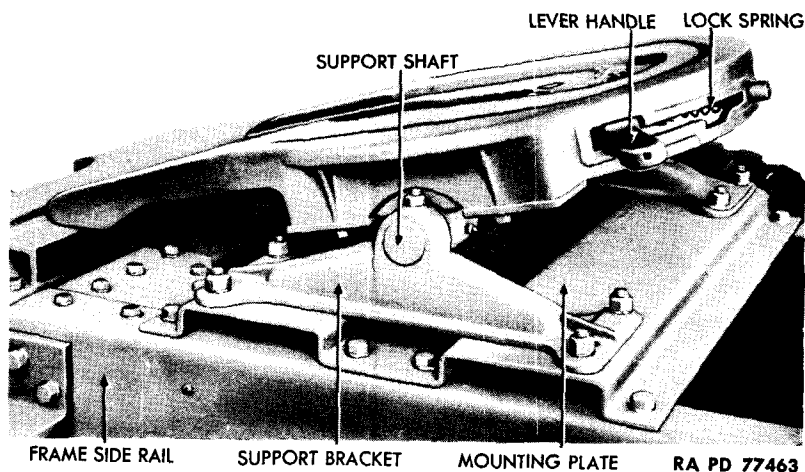

Figure 106 – Fifth Wheel Installed
a. **Description** (fig. 106). The fifth wheel is attached to a mounting plate bolted to the frame side rails at the rear of the truck, and is used to couple tractor and trailer together. It is a swivel-mounted, flat, round steel plate. Rear half of plate forms a V-shaped opening which guides the kingpin neck of the trailer coupling to the coupler jaws at the center of the plate. The kingpin neck snaps the jaws shut, and releases a lever handle to a position that locks the jaws. Disengagement is effected by pulling handle forward, and pushing lever toward the center of the vehicle.